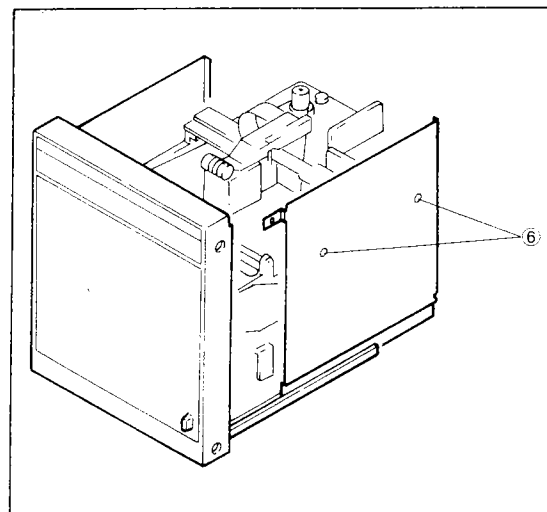

Figure 7-8. Removing Right Side Panel.
- (6) Remove two screws ⑥ (in Figure 7-8) and pull out the right panel.